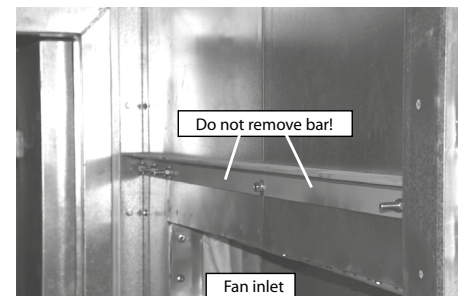

FIGURE 18. Instructions for removing through-wall bolts.
- A) The nut on the inlet side of the fan wall should be removed first (see **FIGURE 18**).
- C) **DO NOT** remove the support bar attached to the wall (see **FIGURE 18**).